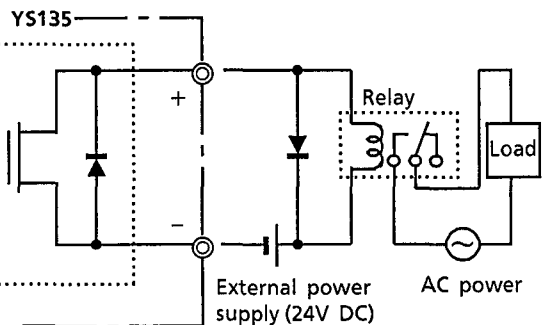

Figure 3.9 Connection of the Status Output when Driving a Load with AC Power
- An AC load cannot be switched directly by using the transistor contact. To switch the AC load, use a relay (see Figure 3.9).